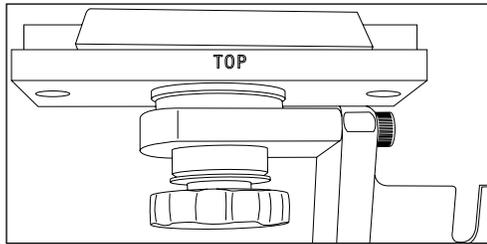
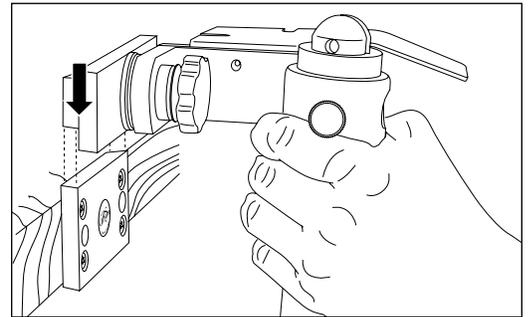

Fig. 2
Fig. 3
**INSTALLATION:** Once the Fixed Mounting Plate has been fastened to the front edge of your bench, you're ready to use the BenchMate. With the word "TOP" (shown in fig. 2) on top, slide the BenchMate firmly over the Fixed Mounting Plate and pull down sharply to lock it into plate, see fig. 3.